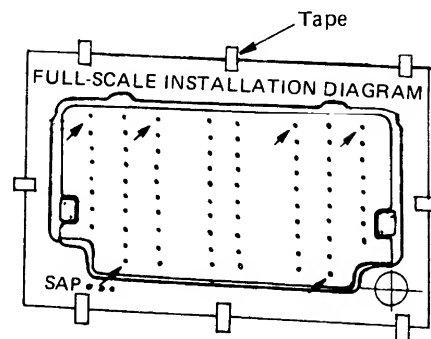

Fig. 6
- Tape full scale installation diagram on wall at location selected, make sure unit is horizontal, use a level or tape measure to measure down from ceiling. Fig. 6